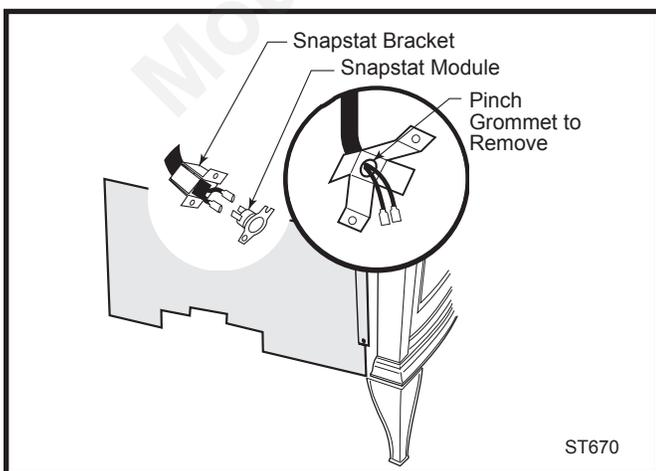

Fig. 9 Remove the snapstat and grommet from the bracket
3. Connect snapstat leads. Disconnect the snapstat module from the leads inside the snapstat bracket. (Fig. 9) Bend open the snapstat bracket. Use needle nose pliers to remove the black plastic grommet from the bracket. Discard the bracket. Connect the two wires to the two snapstat extension leads provided with the parts bag (wires with the sleeve).